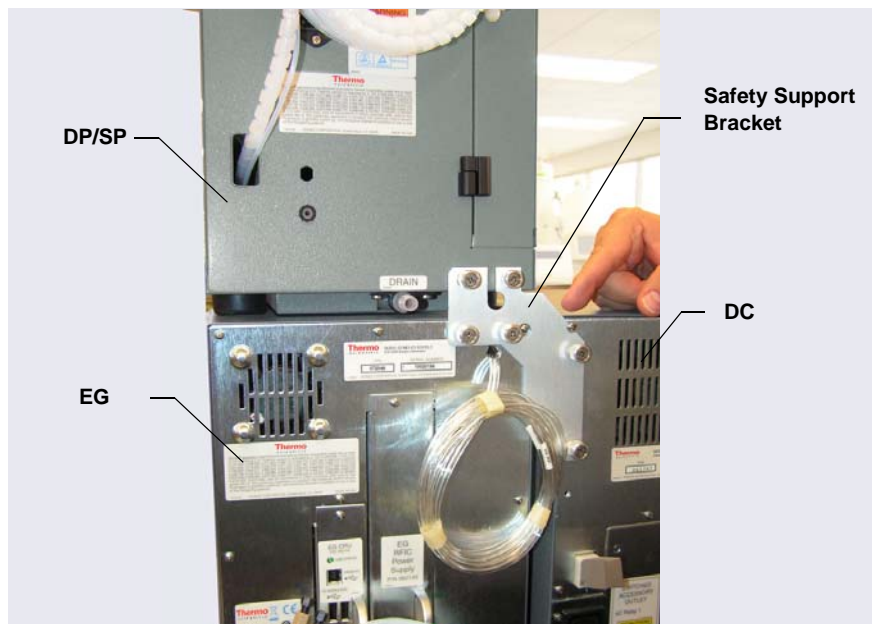

Figure 2-13. Safety Support Bracket Installed on Module Rear Panels (P/N 062225 for a Standard DC Shown)
- Creates enough space between the detector compartment (DC) and the adjacent module to ensure proper ventilation
2. Hold the safety support bracket firmly against the rear panels of the adjacent modules (see Figure 2-13).